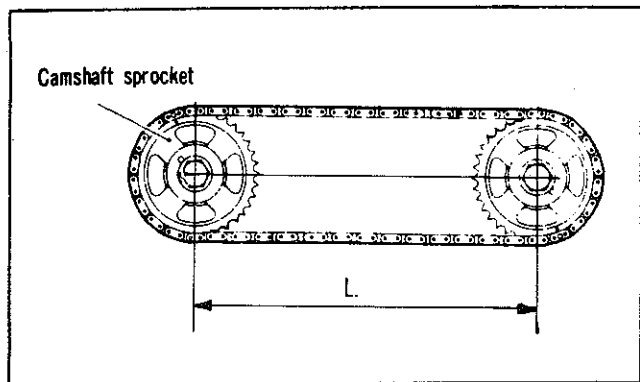

Fig. 72—Checking timing chain stretch
(4) Check the chain guide for wear and damage. If the guide is severely worn or damaged it should be replaced.
(5) Check the chain stretch using two sprockets as shown in Fig. 72. Stretch the chain and measure the distance between the sprocket centres. If the distance is greater than specified replace the chain.